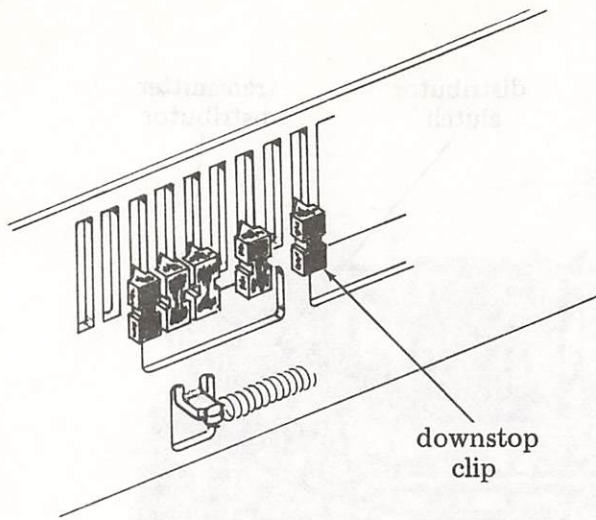

Figure 8 - Repeatable Key Feature
2.08 Any key which trips the keyboard mechanism can be made repeatable by removing a repeat blocking clip in the front frame of the unit. The associated key then can be depressed beyond the normal downstop position. The repeat blocking clip can be removed or inserted as desired (Figure 8). As shipped from the factory, the following keys are enabled for repeat operation:
- upper and lower case (X)